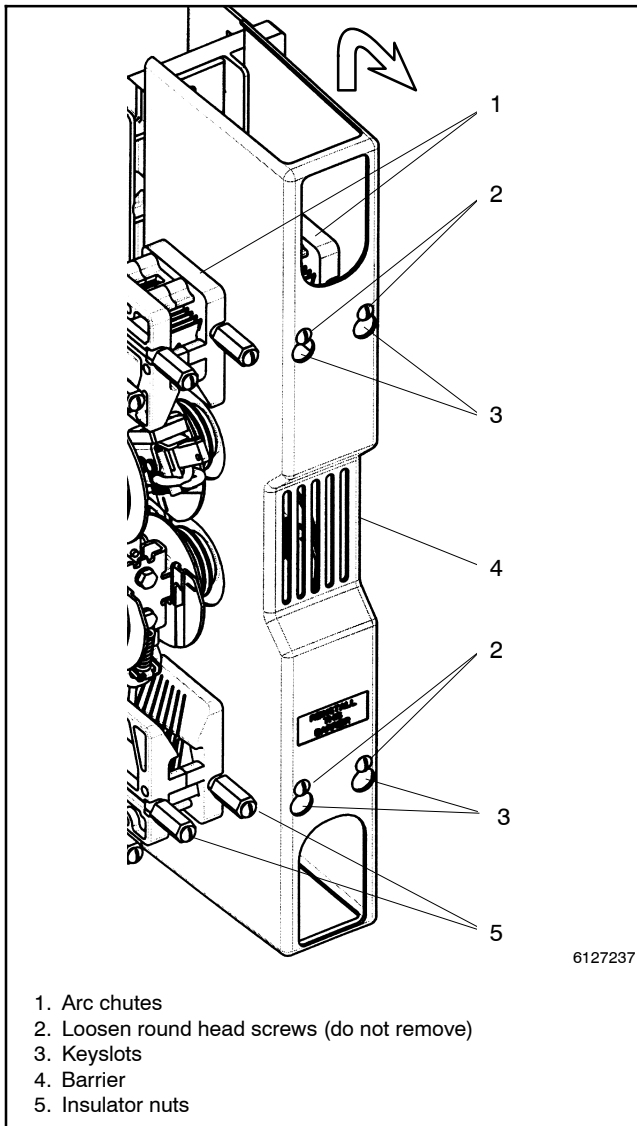

Figure 8-5 Interphase Barrier Removal
3. Remove the interphase barriers (one per pole). Use a blade screwdriver to loosen four round head screws holding each barrier to the arc chutes. Slide the barrier up until the keyholes clear the round head screws, then remove the barrier. See Figure 8-5.
4. Remove the arc chutes. Use a 5/8 in. nutdriver to remove the two long insulator nuts. Then pull the arc chute outward (off the long threaded rods). See Figure 8-5.